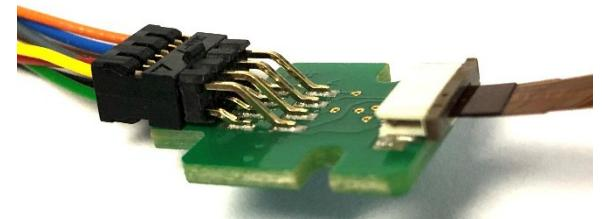

Figure 47 Carriage installed on guide rail and attached to motor shaft
- See Figure 47 for the results of this step.